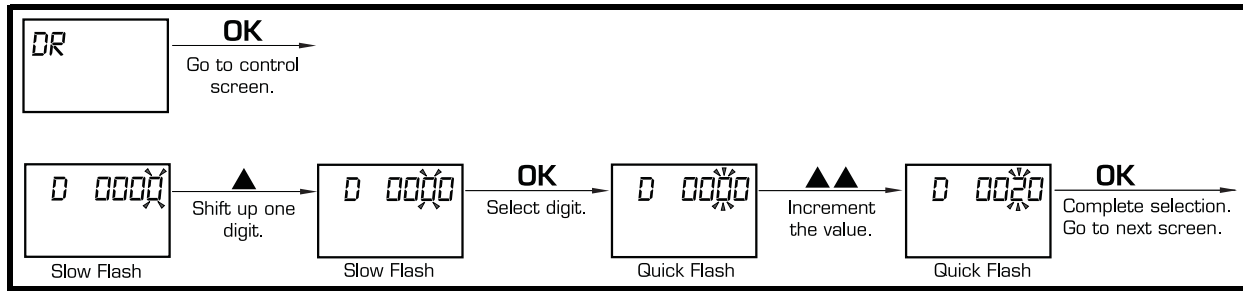

Figure 6. Selecting On Time
2. Follow the steps in Figure 6 to select the on time (20) to be changed.